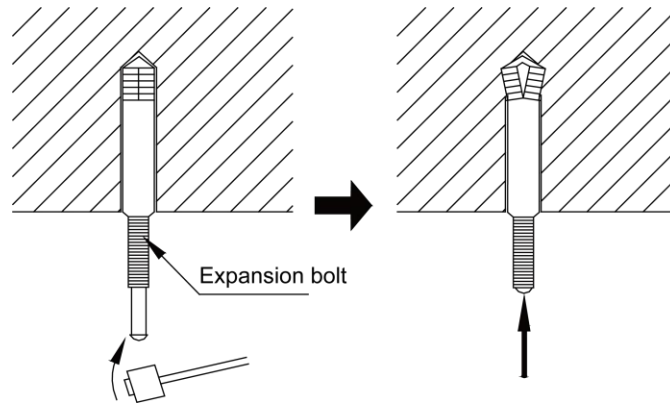

Fig. 4.11
- 2) Insert M10 expansion bolt into hole, and then set the iron nail into bolt. As shown in fig. 4.11, and then remove the paper pattern.